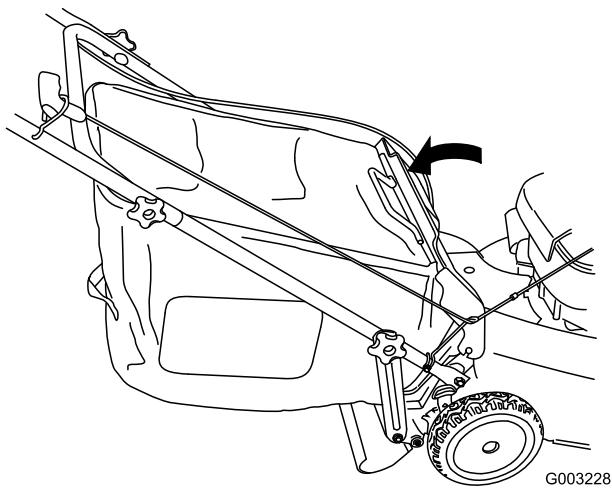

Figure 37
5. Lower the rear door (Figure 37).